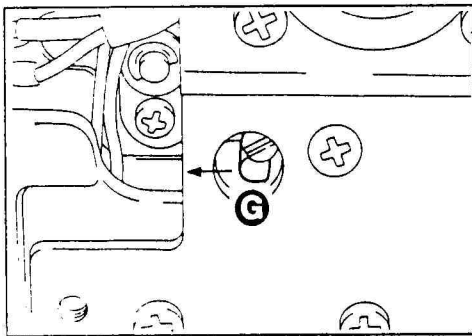

Fig. 5
- ② Push the second curtain ④ (white) and let it run. (See Fig. 5.)